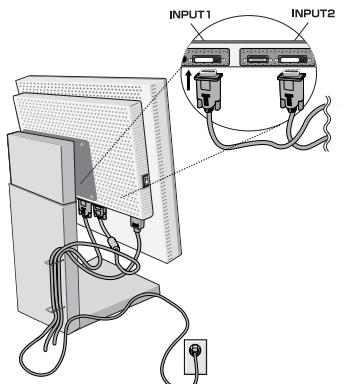

Figure C.1
3. Connect the DVI signal cable to the connector on the back of the monitor. Place the video signal cable (**Figure C.1**). Connect only either VGA or DVI to input 2.
Collect cables and keep them in the stand with attached wireclamps. Use 2 wireclamps for keep them in the back stand (**Figure C.1**), or use 1 wireclamp for keep them in the front stand (**Figure C.2**).
4. Connect one end of the power cord to the AC inlet on the back of the monitor and the other end to the power outlet (**Figure C.1**).